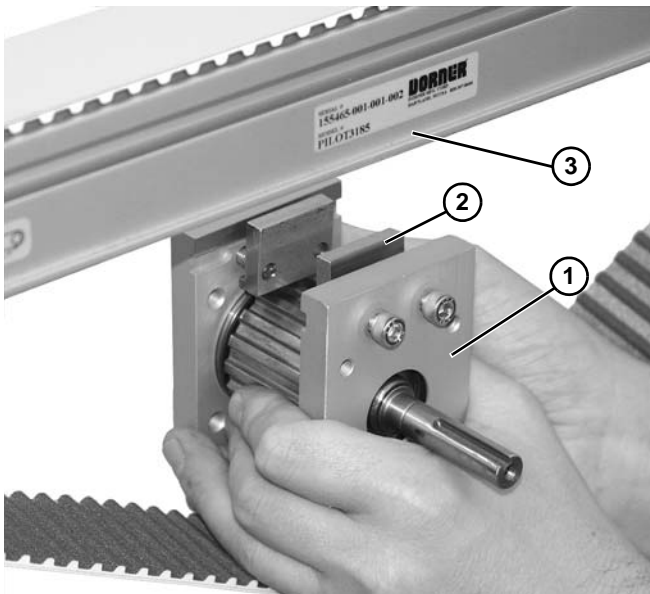

Figure 85
3. Lower center spindle assembly (Figure 85, item 1) clamp block (Figure 85, item 2) from conveyor channel (Figure 85, item 3) on each side of conveyor frame.